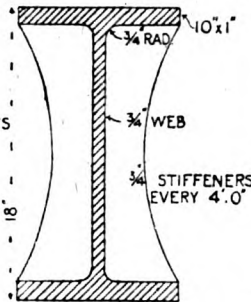

Fig. 2
allow width for building upon and possible tension in top flange from ends being built in, so that the section will be as Fig. 2. (3) Wrought-iron plate girder: For the same depth the stress in bottom flange will be as found above = 15 tons. Allow 4 tons per square inch on the gross sectional area = $3\frac{3}{4}$ sq. in. Say, one $\frac{1}{2}$ -in. plate 8 in. wide for each flange, with $2\frac{1}{2}$ -in. by $2\frac{1}{2}$ -in. angle irons, and $\frac{1}{2}$ -in. web, and stiffeners every 4 ft., as in Fig. 3. Rolled steel joist: By reference to Dorman Long & Co.'s section book, a 12 in. by 5 in. by 32 lb. rolled steel joist will carry 10 tons distributed over a span of 18 ft.; but 5 in. is narrow to build upon, and a $\frac{1}{2}$ -in. top plate would be a desirable addition, as in Fig. 4.